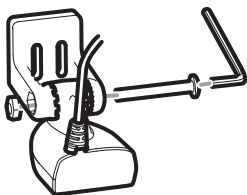

Figure 19
3. Put the pivot bolt through the assembly to hold it in position and loosely install the nut, but do NOT tighten the nut at this time (Figure 19).